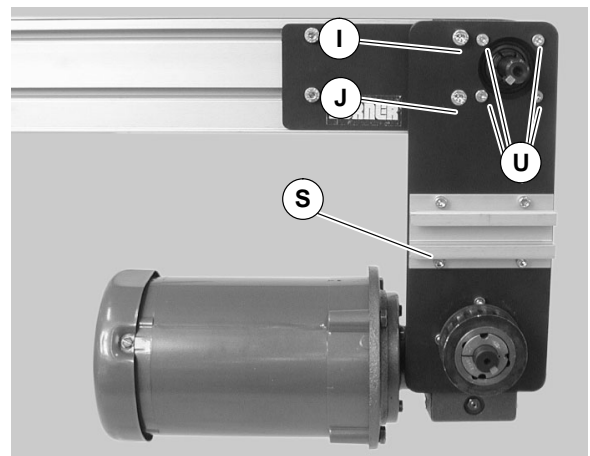

Figure 21
- d. Remove mounting screws (I, J and U of Figure 21) and remove drive package (S).